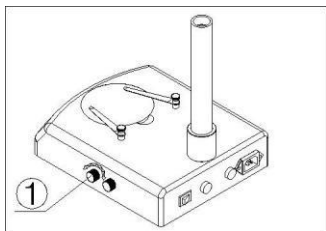

Fig.13
- 1) Turn the adjustable light knob① according to the sign marked on
- The base, along the clockwise the brightness will be added, otherwise it will be weakened. (Fig.13)